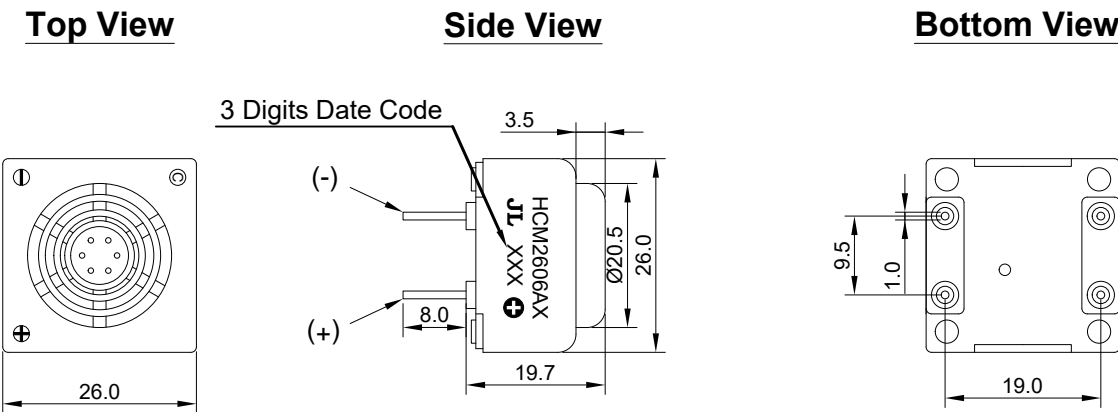

Figure 3. HCM2606AX Mechanical Layout
4.3.1. Layout and Dimension	: See Section 6, Figure 3